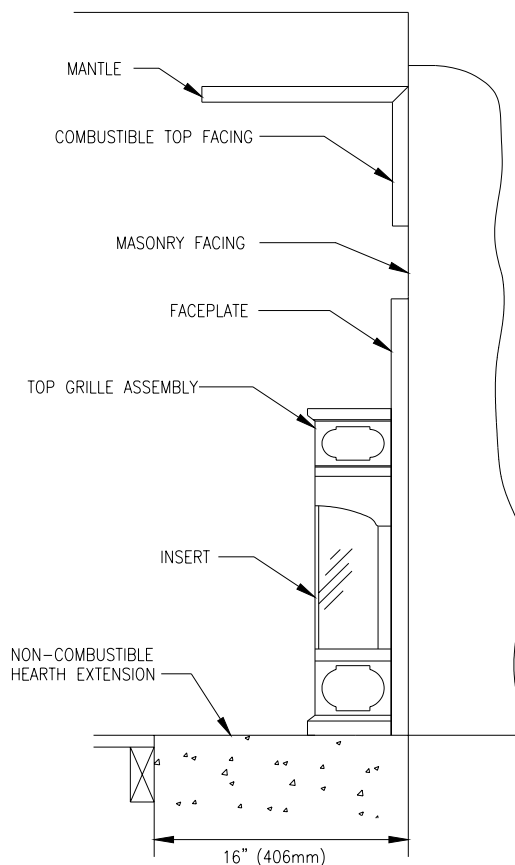

Figure 5b
3. When installing the unit flush to the flooring, there must be a 16" non-combustible hearth extension (see Figure 5b)